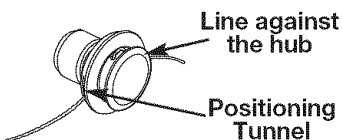

Fig. 13
5. Pull the line and make sure the line is against the hub and is fully extended through the positioning tunnels (Fig. 13).